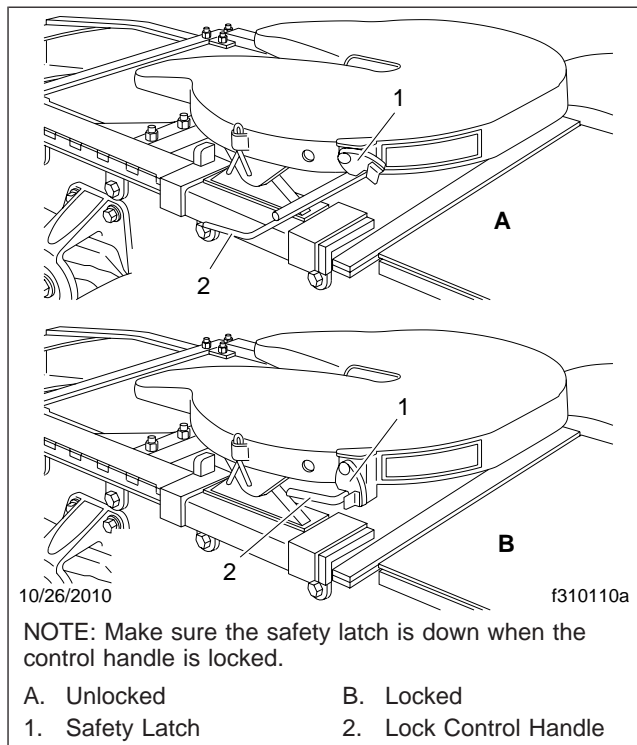
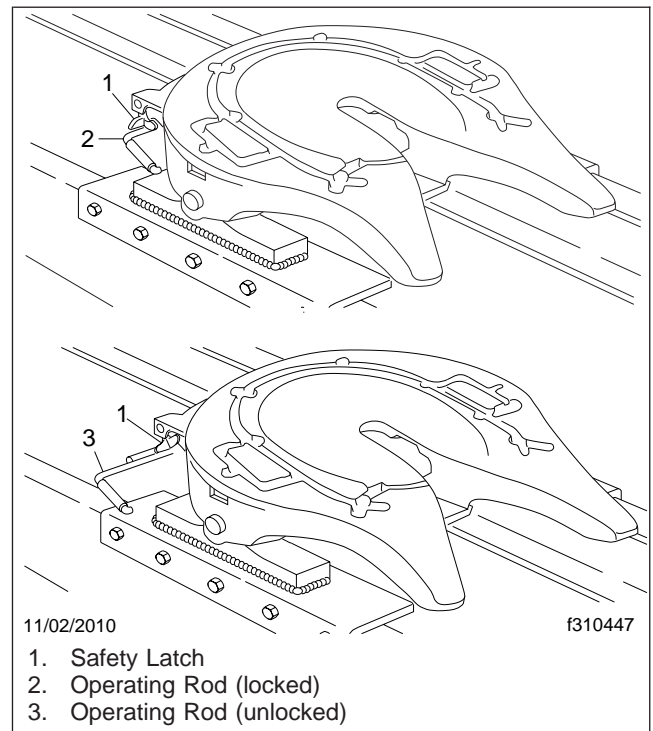

Fig. 10.2, Fontaine Locking Mechanism
Fig. 10.3, Holland Simplex SE Locking Mechanism
2. Ensure the fifth wheel jaw is fully open and the operating rod is in the unlocked position. See Fig. 10.2 or Fig. 10.3.
When lockup has occurred, the fifth wheel control handle moves to the locked position. Make sure that the safety latch is down over the lock control handle to hold the control handle in the locked position. (The safety latch will only rotate down if the operating rod is fully retracted in the locked position.) See **Fig. 10.2** for Fontaine fifth wheels. See **Fig. 10.3** for Holland fifth wheels.